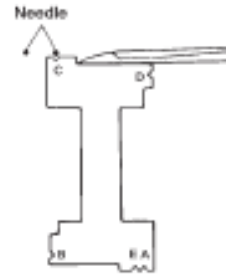

Fig. 7
Put the right needle in “V” groove corresponding to Marks (A-E) on the Gauge then apply the point of Looper to the Gauge and tighten Screw (A). (Fig. 7)